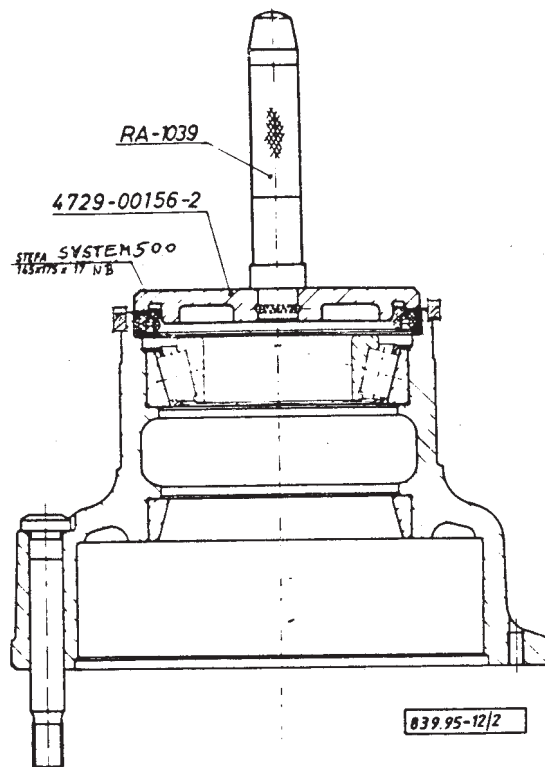

Fig. 3.: PRESSING IN THE SEALING RING
Position the inner part of the inner taper roller bearing (32) into the cup race. Apply thin coat of oil-resistant surface sealant to the sealing ring seat, then by means of the tools shown in Fig. 3. press the sealing ring (8) into the wheel hub.